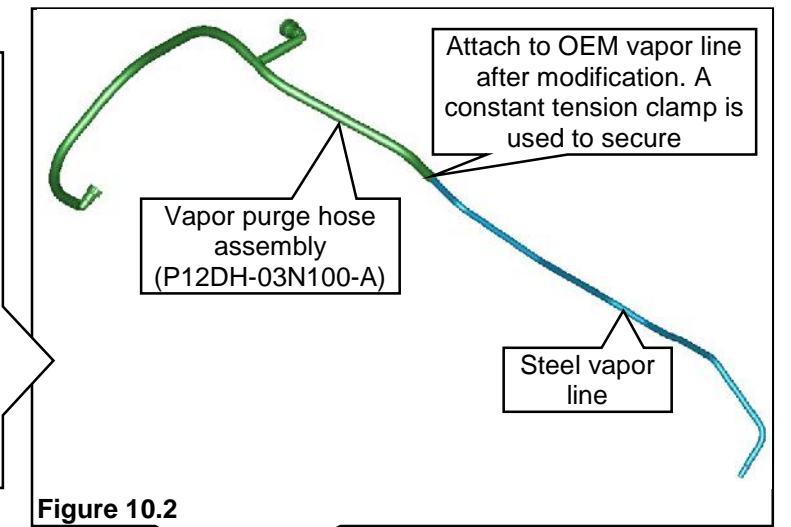

Figure 10.2
2. Install the new vapor purge hose assembly to the steel vapor line. Use a constant tension clamp to secure the hose to the line. **Figure 10.2.**